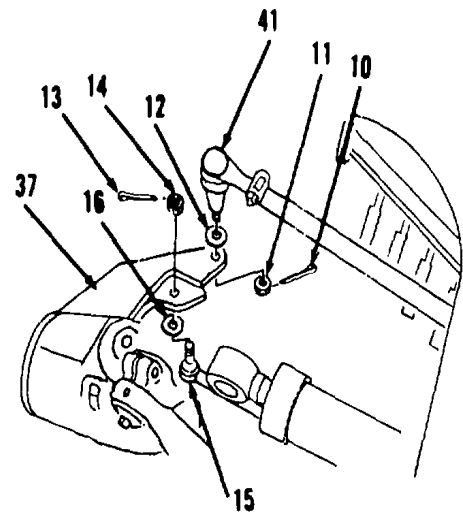

Figure 5-75.
9. Remove and discard cotter pin (10) from right, front socket (41, Figure 5-75).
10. Loosen nut (11) until even with end of threads on socket assembly (41).